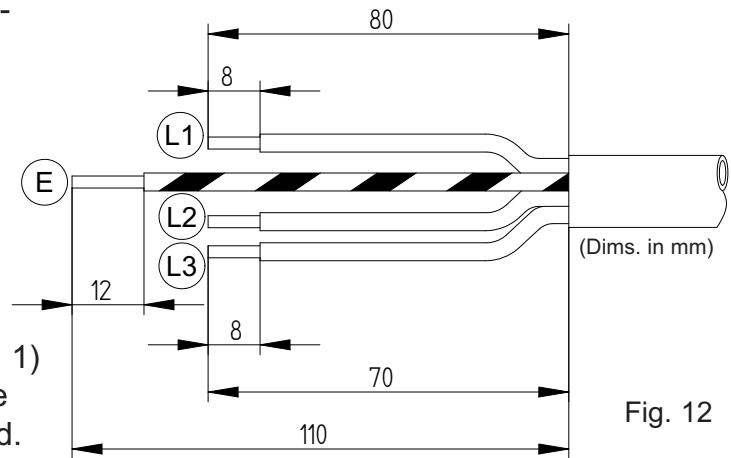

Fig. 12
2. Strip and prepare the cable sheath and insulators as shown in Fig. 12.